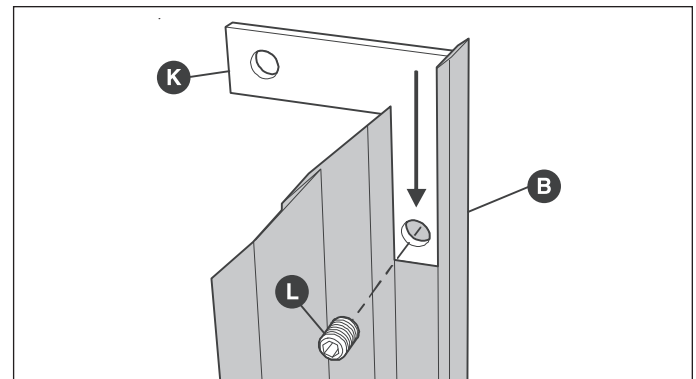

Figure 2-13.
4. Attach brackets (K) to the angled end of each side trim (B and C). Gently secure brackets to side trim by tightening set screws (L) only until snug to avoid dimpling the extrusion face. DO NOT overtighten. (See Figure 2-13).